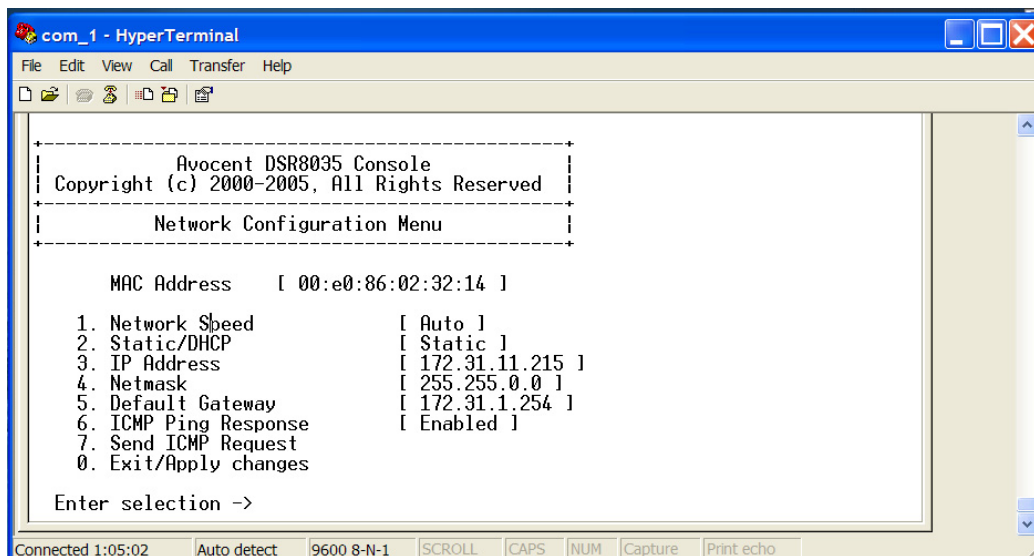

Figure 6.2: Network Configuration Menu
2. Once the Console Main menu displays, type **1** and press **Enter** to access the Network Configuration menu shown in Figure 6.2.